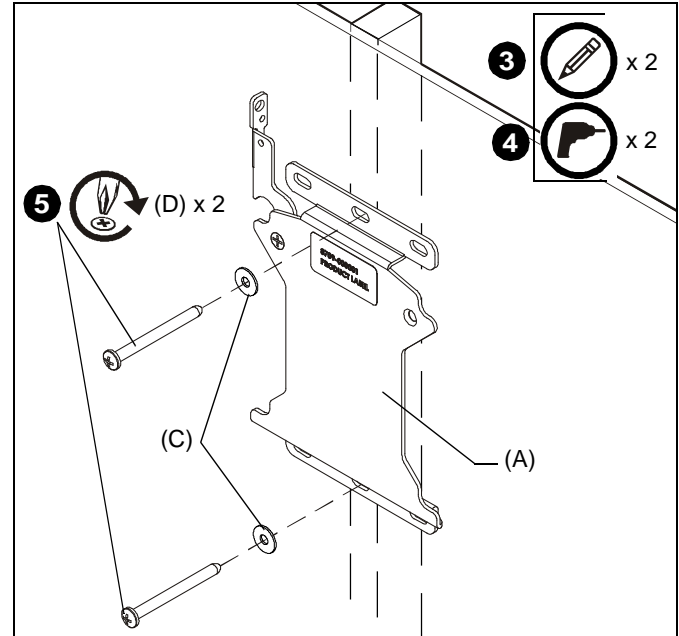

Figure 2
3. Level FSM assembly (A) at desired height and, using it as a template, mark the location of upper and lower center pilot holes. Ensure marks are in the center of wood stud. (See Figure 2)
5. Fasten FSM to wood stud using two #10 x 2-1/2" Phillips head screws (D) through two #10 washers (C), FSM (A), and drywall and install into pilot holes (See Figure 2).